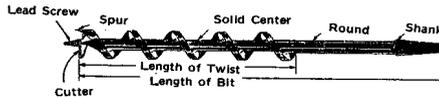

FIGURE 1. Auger Bit.
2.02 *Auger Bit*: This bit consists of a solid center twist provided with a head containing a single cutter, a single spur, and a lead screw, the threads of which are 14 per inch on the three smaller sizes and 12 per inch on the remaining sizes. See Figure 1.